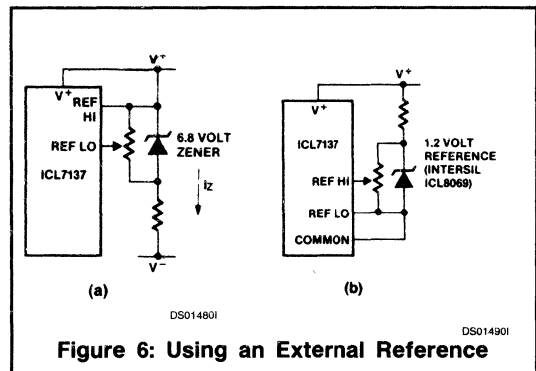

Figure 6: Using an External Reference
The limitations of the on-chip reference should also be recognized, however. The reference temperature coefficient (TC) can cause some degradation in performance. Temperature changes of $2^{\circ}C$ to $8^{\circ}C$, typical for instruments, can give a scale factor error of a count or more. Also, the COMMON voltage will have a poor voltage coefficient when the total supply voltage is less than that which will cause the zener to regulate ($< 7V$). These problems are eliminated if an external reference is used, as shown in Figure 6.